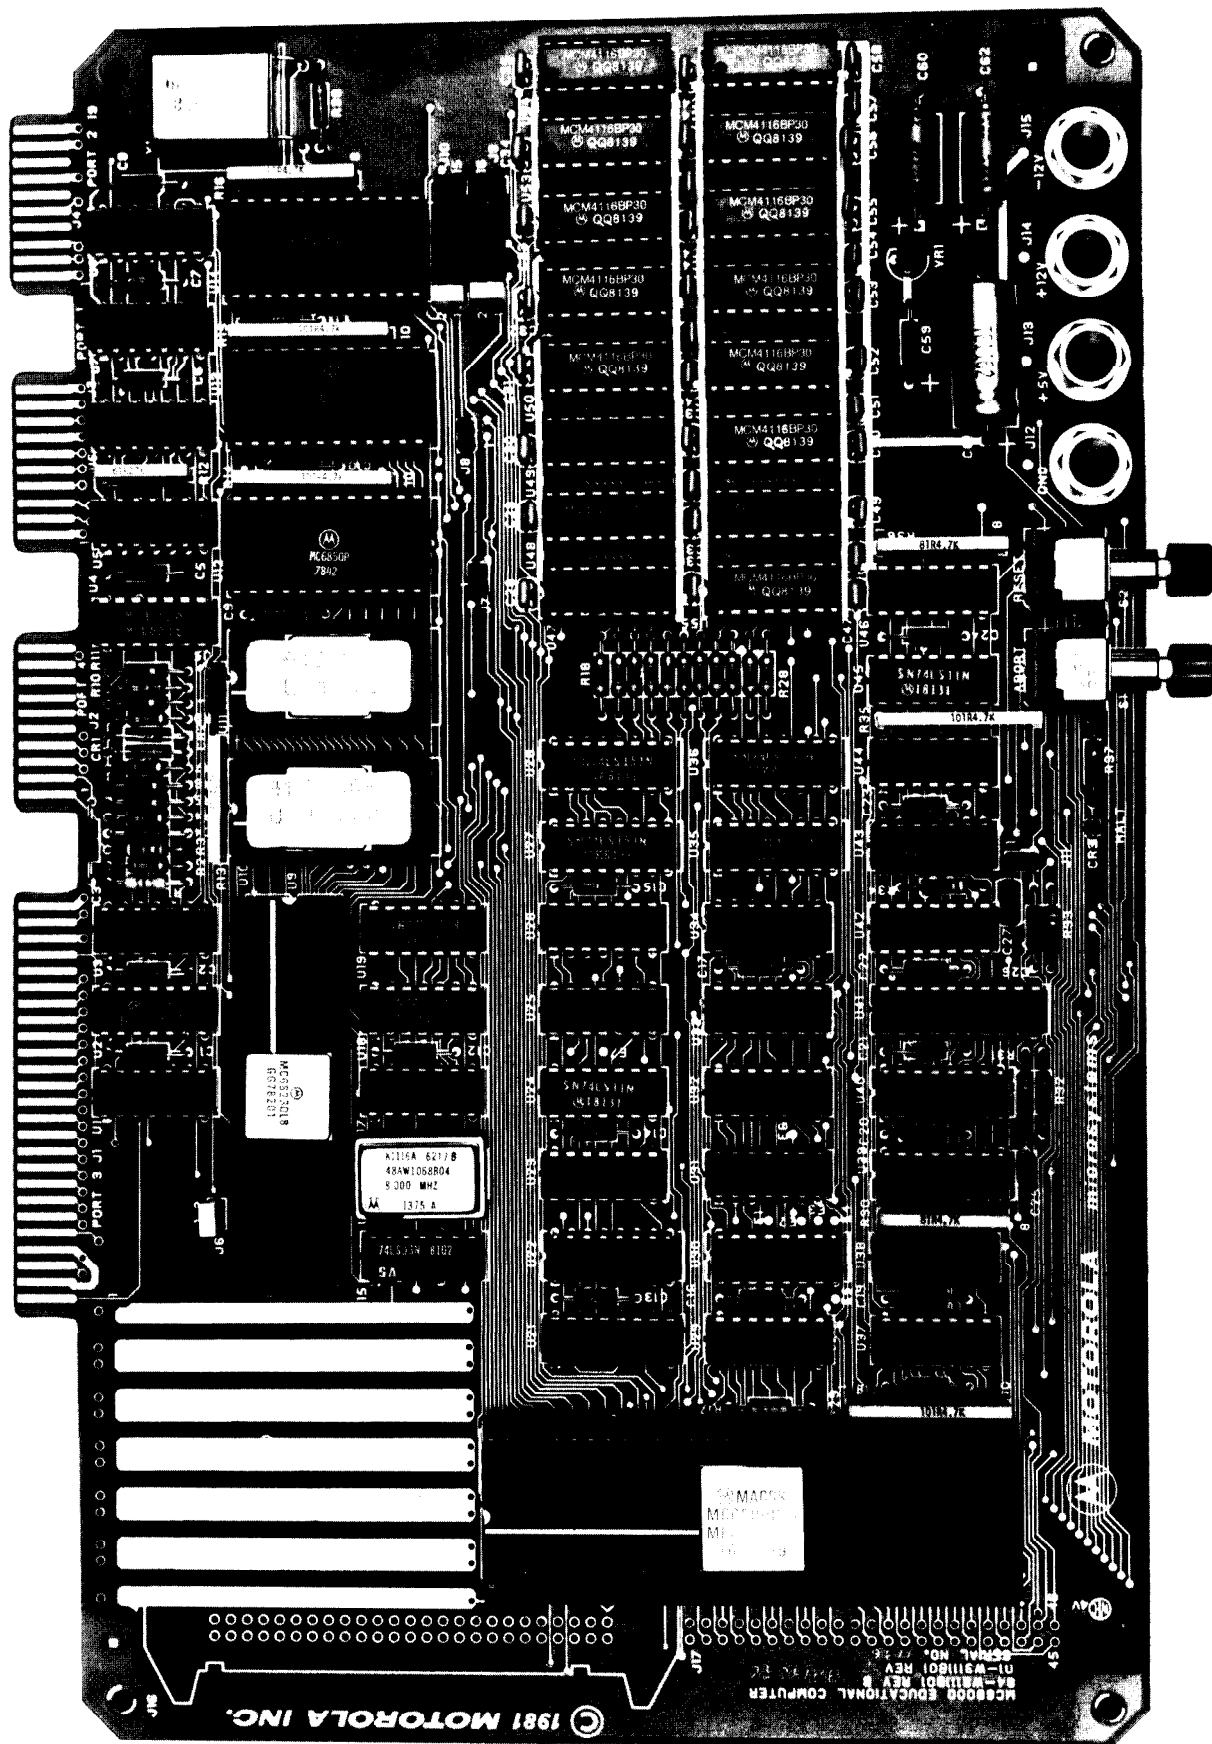

FIGURE 1-1. MC68000 Educational Computer Board
Intended primarily for training and educational use, including college-level courses and industrial in-plant training, the MC68000 Educational Computer Board (ECB) serves as an economical yet comprehensive introduction to systems based on the M68000 family of microcomputer products. Located on a single small printed circuit (PC) card (Figure 1-1), a complete microprocessor system is provided, including an MC68000 16-bit microprocessor, memory, parallel input/output (I/O), and serial communications I/O. The user must only connect an RS-232C-compatible "dumb" terminal and power supplies to have a functional system.